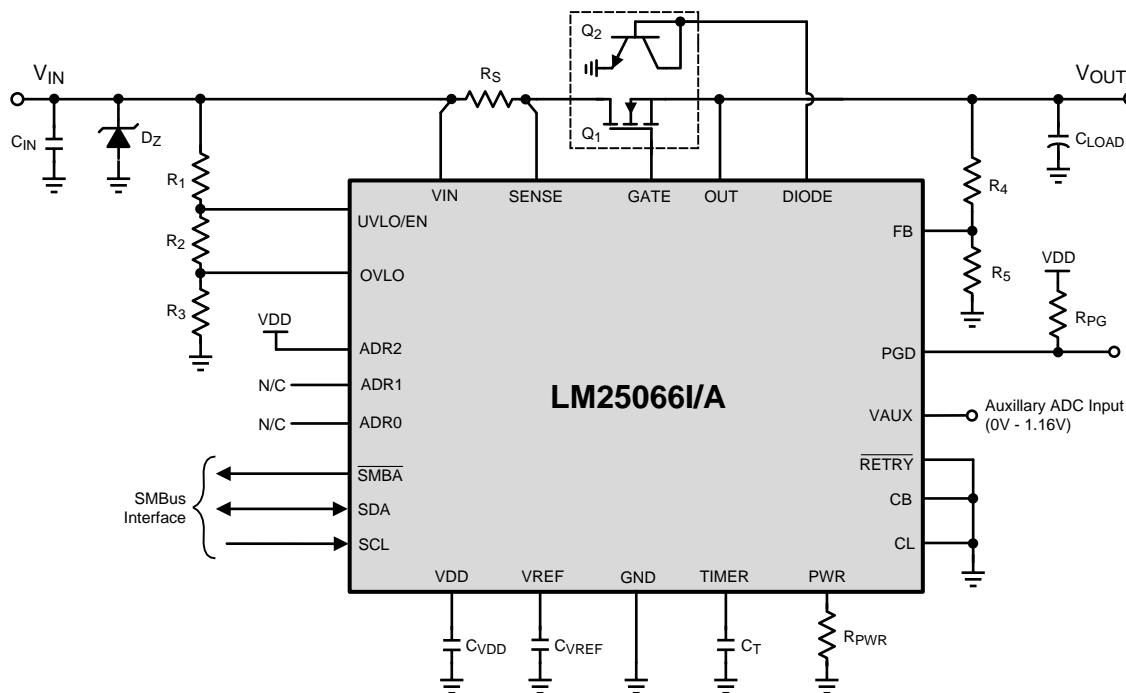
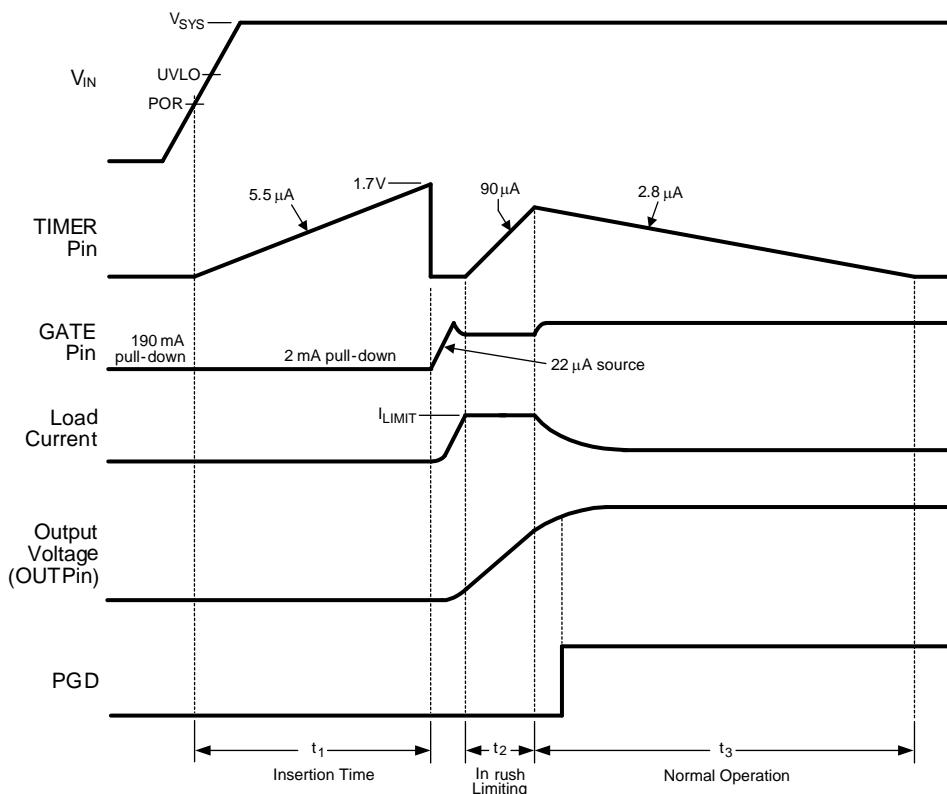

Figure 31. Typical Application Circuit
Figure 32. Power Up Sequence (Current Limit Only)
The VIN operating range of the LM25066I/A is +2.9V to +17V, with transient capability to +24V. Referring to Figure 31 and Figure 32, as the voltage at VIN initially increases, the external N-channel MOSFET (Q_1) is held off by an internal 190 mA pulldown current at the GATE pin. The strong pulldown current at the GATE pin prevents an inadvertent turn-on as the MOSFET's gate-to-drain (Miller) capacitance is charged. Additionally, the TIMER pin is initially held at ground. When the V_{IN} voltage reaches the POR threshold, the insertion time begins. During the insertion time, the capacitor at the TIMER pin (C_T) is charged by a 5.5 μ A current source and Q_1 is held off by a 2 mA pulldown current at the GATE pin regardless of the input voltage. The insertion time delay allows ringing and transients at VIN to settle before Q_1 is enabled. The insertion time ends when the TIMER pin
As the voltage at the OUT pin increases, the LM25066I/A monitors the drain current and power dissipation of MOSFET Q_1 . Inrush current limiting and/or power limiting circuits actively control the current delivered to the load. During the inrush limiting interval (t_2 in Figure 32), an internal 90 μ A fault timer current source charges C_T . If Q_1 's power dissipation and the input current reduce below their respective limiting thresholds before the TIMER pin reaches 1.7V, the 90 μ A current source is switched off and C_T is discharged by the internal 2.8 μ A current sink (t_3 in Figure 32). The PGD pin switches high when FB exceeds its rising threshold of 1.167V.
A charge pump provides the voltage at the GATE pin to enhance the N-Channel MOSFET's gate. During normal operating conditions (t_3 in Figure 32) the gate of Q_1 is held charged by an internal 22 μ A current source. The voltage at the GATE pin (with respect to ground) is limited by an internal 18.8 V zener diode. See the graph "GATE Pin Voltage" shown previously. Since the gate-to-source voltage applied to Q_1 could be as high as 18.8 V during various conditions, a zener diode with the appropriate voltage rating must be added between the GATE and OUT pins if the maximum V_{GS} rating of the selected MOSFET is less than 18.8 V. The external zener diode must have a forward current rating of at least 190 mA. When the system voltage is initially applied, the GATE pin is held low by a 190 mA pulldown current. This helps prevent an inadvertent turn-on of the MOSFET through its drain-gate capacitance as the applied system voltage increases.
During the insertion time (t_1 in Figure 32) the GATE pin is held low by a 2 mA pulldown current. This maintains Q_1 in the off-state until the end of t_1 , regardless of the voltage at VIN or UVLO. Following the insertion time (t_2 in Figure 32), the gate voltage of Q_1 is controlled to keep the current or power dissipation level from exceeding the programmed levels. While in the current or power limiting mode, the TIMER pin capacitor is charging. If the current and power limiting cease before the TIMER pin reaches 1.7V, the TIMER pin capacitor then discharges, and the circuit begins normal operation. If the inrush limiting condition persists such that the TIMER pin reached 1.7V during t_2 , the GATE pin is then pulled low by the 190 mA pulldown current. The GATE pin is then held low until either a power up sequence is initiated (RETRY pin to VDD), or an automatic retry is attempted (RETRY pin to GROUND). See Fault Timer and Restart. If the system input voltage falls below the UVLO threshold or rises above the OVLO threshold, the GATE pin is pulled low by the 2 mA pulldown current to switch off Q_1 .
When the current limit or power limit threshold is reached during turn-on, or as a result of a fault condition, the gate-to-source voltage of Q_1 is controlled to regulate the load current and power dissipation in Q_1 . When either limiting function is active, a 90 μ A fault timer current source charges the external capacitor (C_T) at the TIMER pin as shown in Figure 32 (Fault Timeout Period). If the fault condition subsides during the Fault Timeout Period before the TIMER pin reaches 1.7V, the LM25066I/A returns to the normal operating mode and C_T is discharged by the 1.9 mA current sink. If the TIMER pin reaches 1.7V during the Fault Timeout Period, Q_1 is switched off by a 2 mA pulldown current at the GATE pin. The subsequent restart procedure then depends on the selected retry configuration.
A) Insertion Delay - Upon applying the system voltage (V_{SYS}) to the circuit, the external MOSFET (Q_1) is held off during the insertion time (t_1 in Figure 32) to allow ringing and transients at V_{SYS} to settle. Since each backplane's response to a circuit card plug-in is unique, the worst case settling time must be determined for each application. The insertion time starts when V_{IN} reaches the POR threshold, at which time the internal 5.5 μ A current source charges C_T from 0V to 1.7V. The required capacitor value is calculated from: